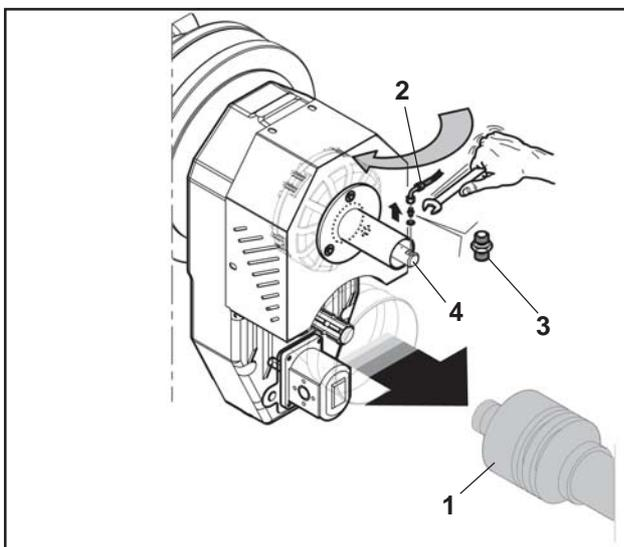

fig.1
- 7) Put the fitting back with the pipe (2, fig. 1).
- 8) Put the cardan shaft (1, fig. 1) back on the power takeoff.